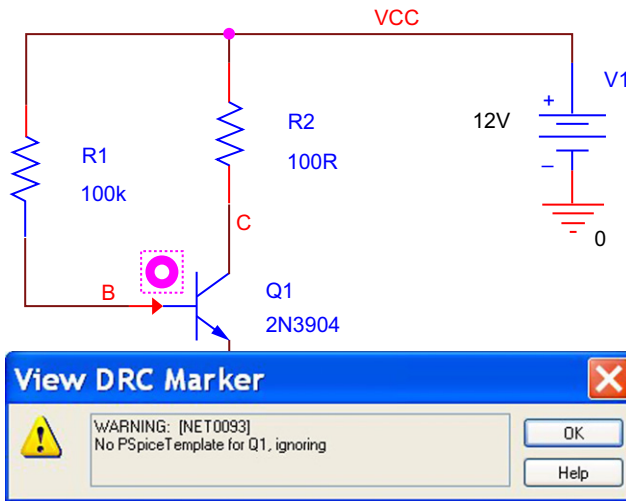

FIGURE 8.14
- In Capture a green circle will appear next to the transistor. Click on the circle and a warning message will appear as shown in Figure 8.14, stating that there is no PSpice Template for Q1. The PSpice Template is a required property for a Capture part to be simulated in PSpice. This will be covered in more detail in Chapter 16.